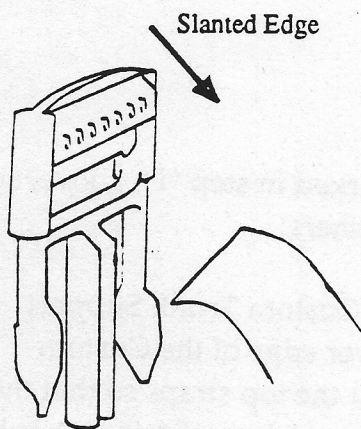
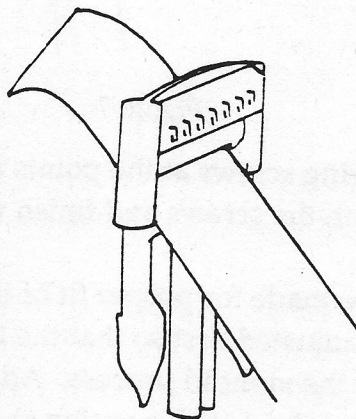
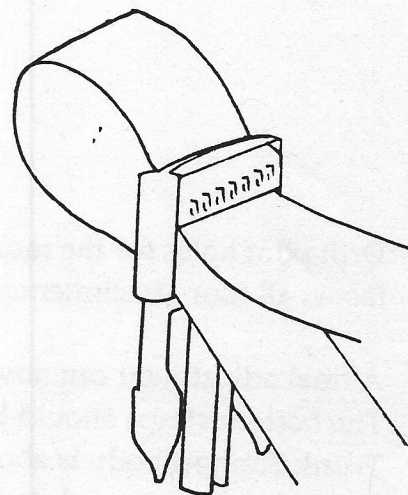

Figure 4
Figure 5
Figure 6
- f. Take the male portion of the buckle in hand and hold it with the slanted edge on top and facing the piece of dacron being held in the other hand (Figure 4). Feed one end of the dacron webbing through the buckle by sliding it through the bottom slot first (Figure 5) and looping it back through the top slot (Figure 6). *(If threaded correctly, the slanted edge will act as a "stop" for the dacron webbing when the buckle and dacron combination is held taut. If the dacron webbing pulls through and is not "stopped", the buckle was held incorrectly when threaded. Thread the male portion of the buckle again from the other side.)*